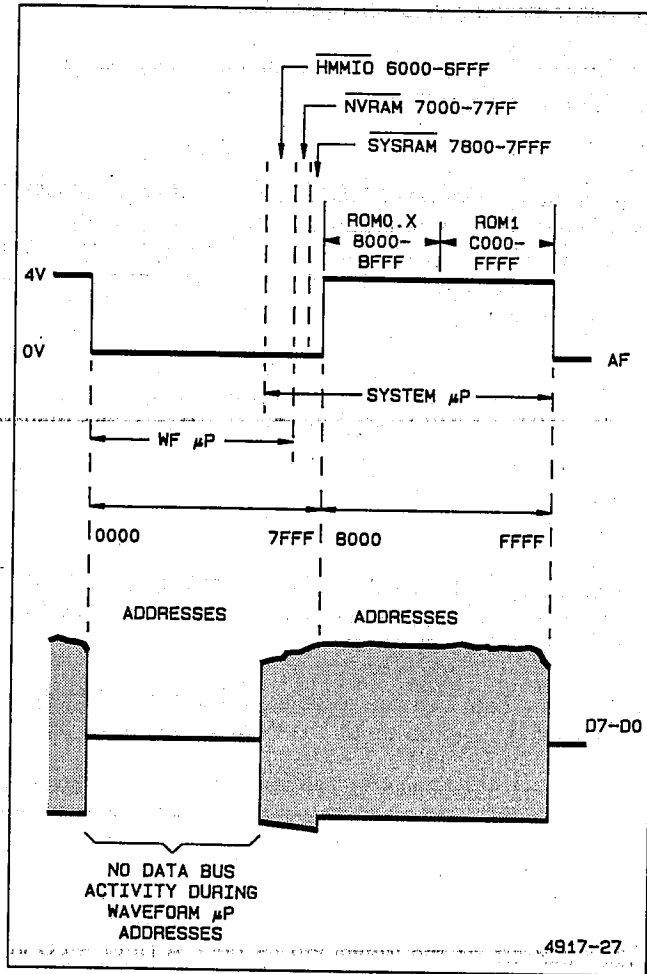

Figure 6-10. System μP data bit D7 in the Bus Isolate mode.
3. Check that no data bus activity is occurring during the Waveform  $\mu\text{P}$  address space (see Figure 6-10 to compare against). Faulty address decoding can cause response from an incorrectly addressed device.